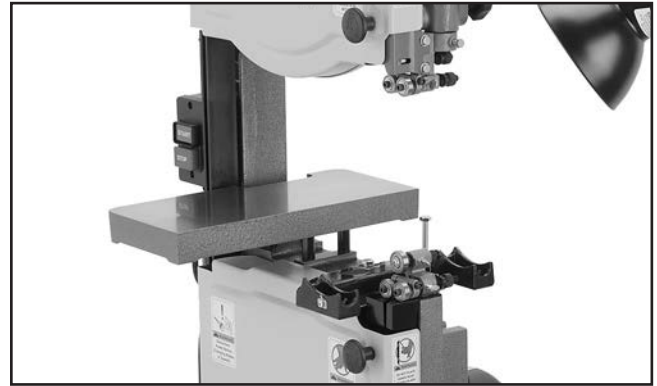

Figure 11. Extension table installed.
- Attach the extension table to the lever board with the four M6-1 x 25 cap screws, four 6mm flat washers, and four 6mm lock washers (**Figure 11**). Only thread the cap screws in halfway for now (adjustments to the extension table will be made later).